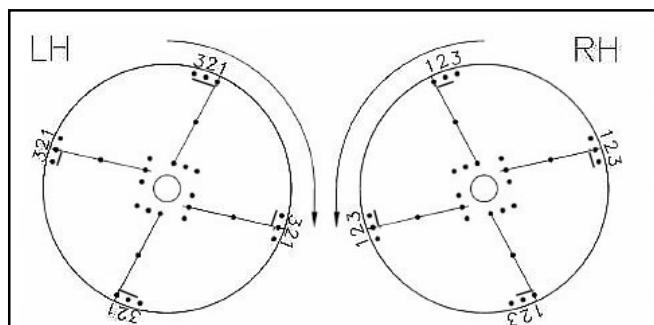

Figure 3 - Fin locations for 30" bottom
4. Place fin hole closest to gusset over proper hole near outer edge of spinner disc per figures 3 and 4.
- Figure 3 - 30" wide bottom: two opposing fins in position 1 and two opposing fins in position 2.
7. Verify positioning of fin is correct for spreader model (Figure 3 and 4).